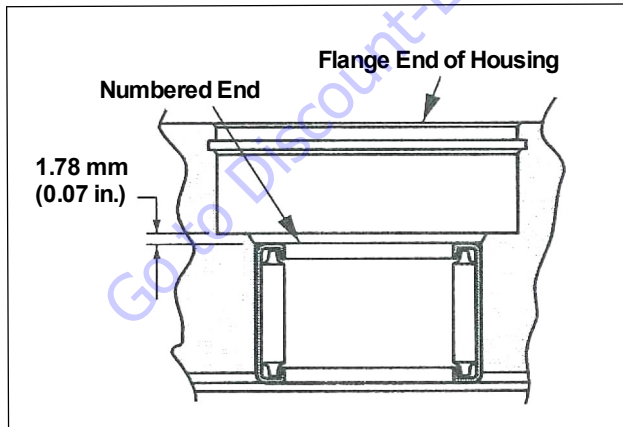

Figure 5-137. Housing Inspection
- Check the bearing (press fit) in housing. If needles remain in cage, move freely, and setting at the dimension shown in Figure 5-137., removal not required.
2. If necessary, press new bearing in housing to dimension shown in Figure 5-137., with the numbered end of bearing outward.